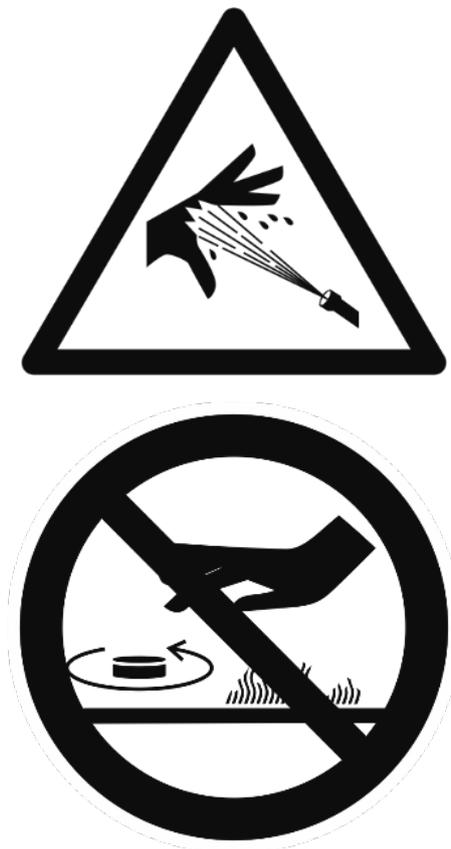

Figure 3-1 Prevent liquid splashing and burns
(1)When the engine is just stopped working, any operation to open tank cover, radiator cover or replace filter may cause severe burns. Therefore, the above operations must be performed after the engine is fully cooled down, and remove the cover slowly in order to release pressure, as shown in Figure 3-1.